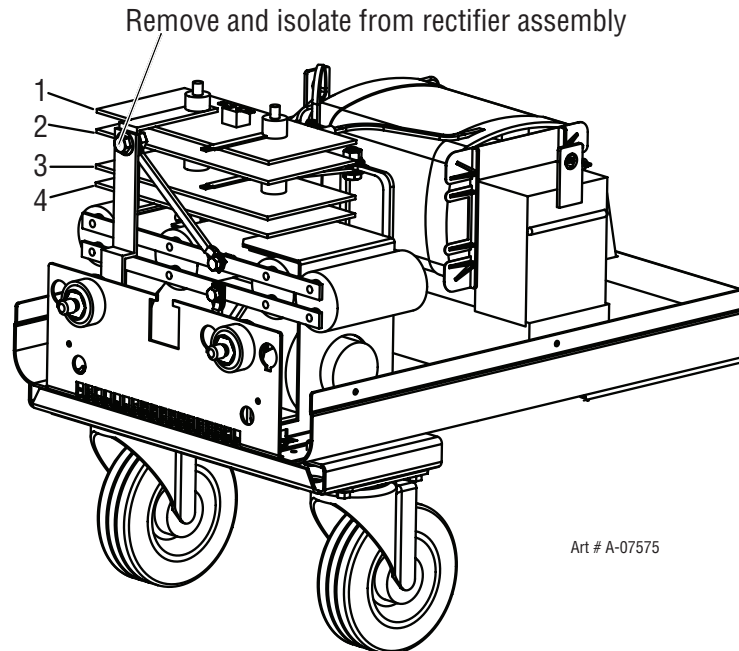

Figure 7-3: Rectifier Assembly Test
2. Disconnect and isolate wires from the Negative output of the Rectifier Assembly See Figure 7-3.